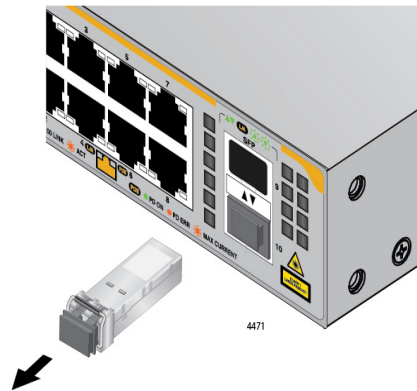

Figure 27. Remove SFP Module from SFP Slot
4. With the SFP transceiver handle in the unlock position, gently remove the module. Refer to Figure 27.